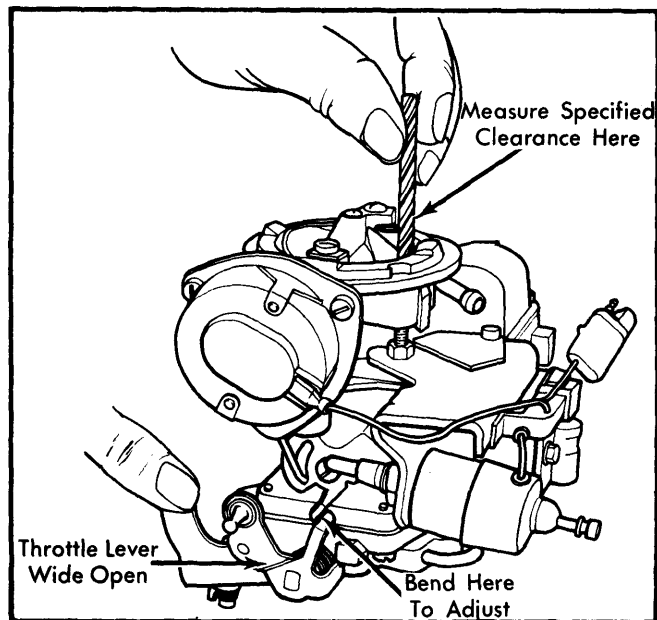

Fig. 5 Choke Unloader (Dechoke) Adjustment
3) Adjust by bending unloader tang which contacts the fast idle cam. See Fig. 5.